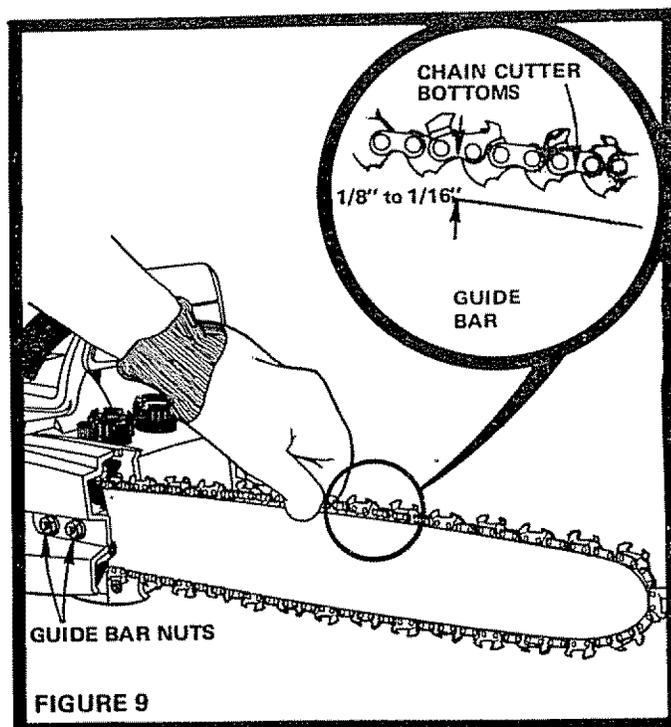

FIGURE 9
2. Still holding end of Guide Bar up, tighten Guide Bar Nuts securely (Fig. 9).
3. Test Chain tension by lifting Chain at the center of the Guide Bar. Bottoms of Cutters should raise approximately 1/8 inch above the Guide Bar (Fig. 9).